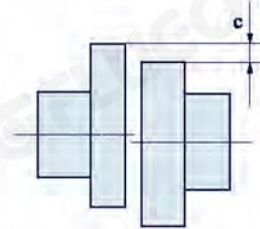

Fig.5
- b. Put the pad under the motor while to adjust both pump and motor. Angle adjustment is to guarantee the parallelism of the two planes of the clutches. Use a dial gauge to check four points on the end-face of the clutch flange, the reading on the gauge is 0.02-0.03, and use a feeler to check the parallelism, the difference (a-b) between the two planes is  $\leq 0.06$  (see Fig.5). Central line alignment means the aligned degree between the central line of both pump and motor's shafts, c should be  $\leq 0.08$  (see Fig.5).